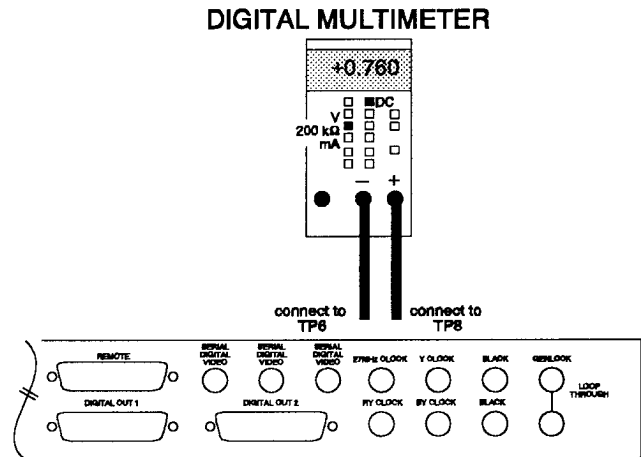

Fig. 5-20. Setup to calibrate the output levels (R39).
- Connect the "—" probe from the digital multimeter to TP6 (-5 V) and the + probe to TP8 as shown in Fig. 5-20.